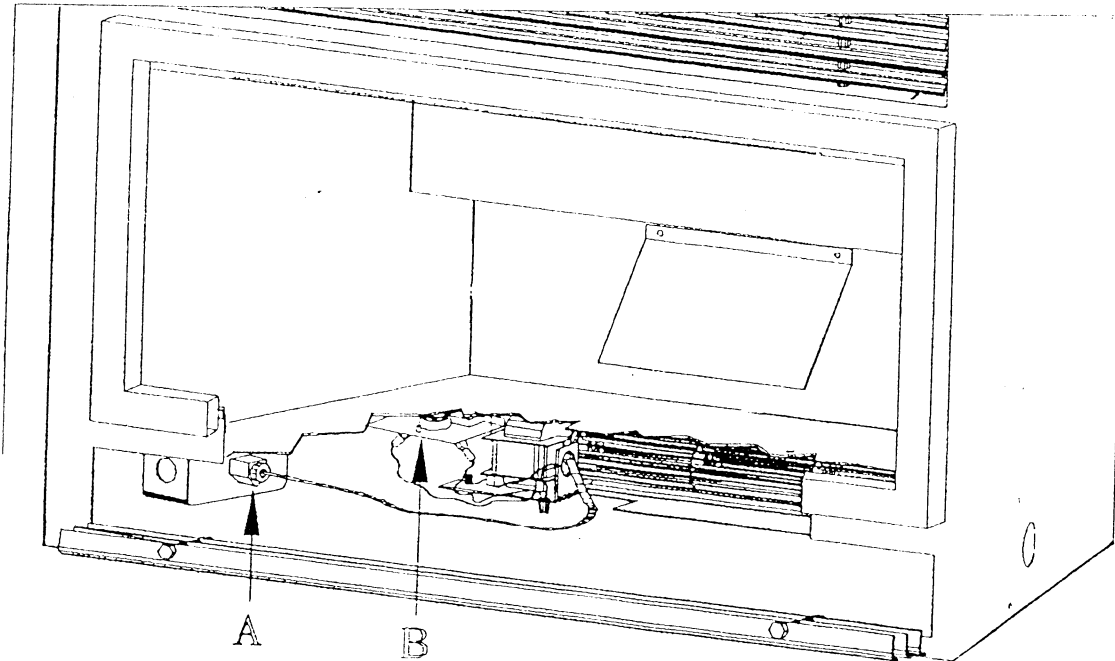

Figure 7
8. Place a bead of sealant outside the 4" flex pipe collar (C) and slide it inside the 4" pipe on top of the stove (D): This is a snap lock connection.
9. Place a bead of sealant outside the 6" flex pipe collar (E) and slide it inside the 6" pipe on top of the stove (F). This is a snap lock connection.
D. CONNECT THE FAN KIT. See figure 7.